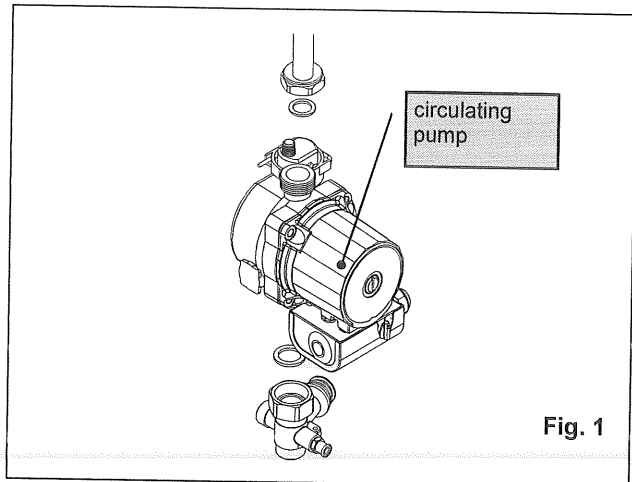

Fig. 1
**Circulating pump (motor body)** (see fig. 1)